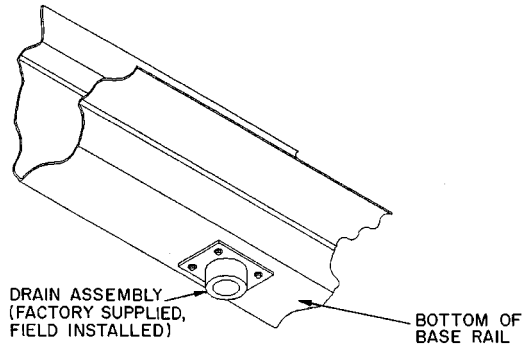

Fig. 5 — Condensate Drain Location
2. Remove the drain assembly and attach it to the bottom of the unit base rail at the preferred drain location using 4 of the screws provided. See Fig. 5.